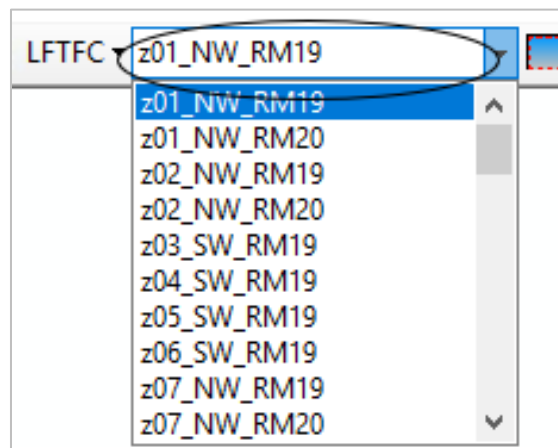

Figure 7-3. LFTFC's Management Unit selection drop-down menu.
The second down-arrow on the toolbar is the Management Unit (MU) selection drop-down menu, which allows the user to select a MU once the project is set up (Figure 7-3). MUs can be as large as a LF map zone or as small as an initial fire incident that a user would like to calibrate and analyze.